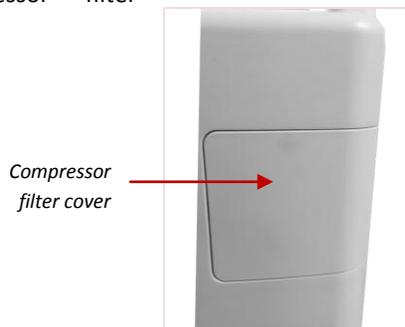

Figure 4-1
- a) The compressor filter cover is in the back of the device (see figure 4-1 below). Open the compressor filter cover (see figure 4-2 below) and unscrew the filter body clockwise (see figure 4-3 below) to remove the